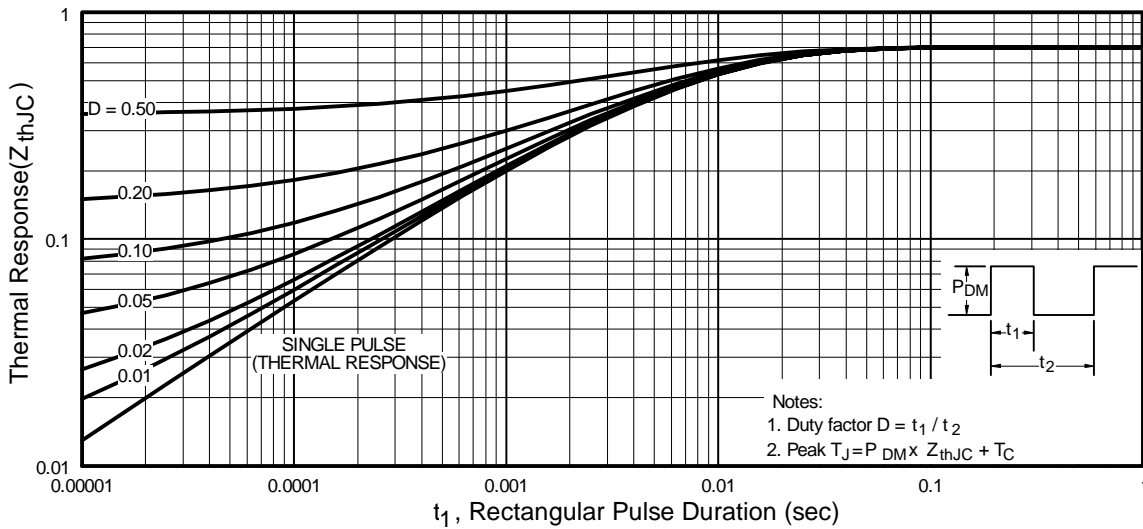

Fig 11. Maximum Effective Transient Thermal Impedance, Junction-to-Case
- ① Repetitive rating; pulse width limited by max. junction temperature. (See Fig. 11)
- ② Starting $T_J = 25^\circ\text{C}$, $L = 1.9\text{mH}$